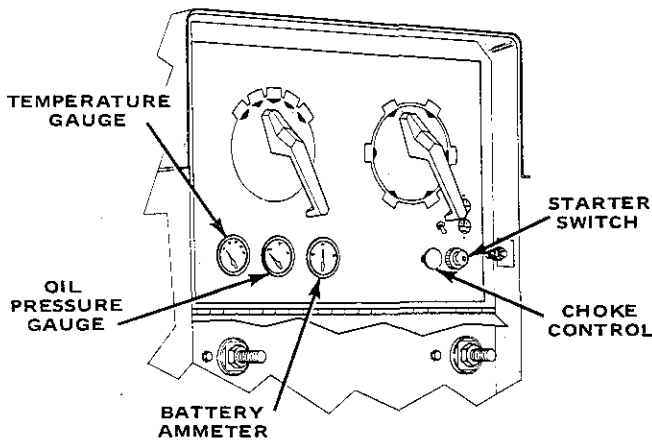

Figure 8-1. Engine Controls
**8 - 1. CHOKE CONTROL (Figure 8-1)**
**8 - 2. STARTER SWITCH (Figure 8-1)**
**8 - 3. AUTOMATIC IDLE CONTROL (Figure 8-1 & 8-2)**
#### 8 - 4. OIL PRESSURE GAUGE (Figure 8-1)
#### 8 - 5. ENGINE AMMETER (Figure 8-1)
#### 8 - 6. TEMPERATURE GAUGE (Figure 8-1)